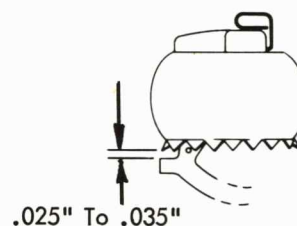

FIGURE 56. Skirt Clearance
- b. Adjust the detent actuating lever support front or rear (under its locking screw) so that the rotate detent will clear the teeth on the typehead skirt by .025 to .035" when the cycle shaft is at rest (Fig. 56). This clearance should be observed when the typehead is manually tilted to a two tilt position since the two tilt position provides the rotate detent with the least amount of motion.